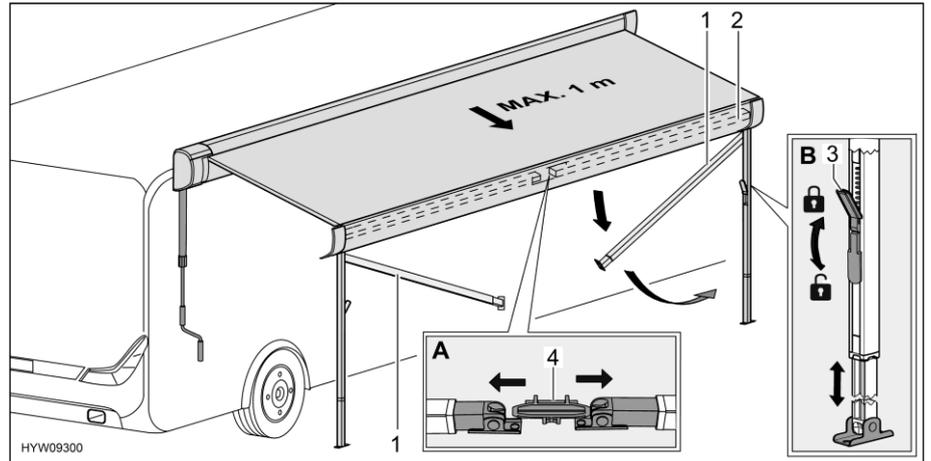

Fig. 33 Preparing support legs
- Release support legs (Fig. 33,1) from holder (Fig. 33,4) in the front bar (Fig. 33,2). In order to do this, apply slight outward pressure on the support legs (Fig. 33,A).
- Release the locks (Fig. 33,3) of the support legs. In order to do this, fold the catch lever downwards.
- Pull lower part of the support legs out to the desired length (Fig. 33,B).
- Close the locks (Fig. 33,3) of the support legs. In order to do this, fold the catch lever upwards.